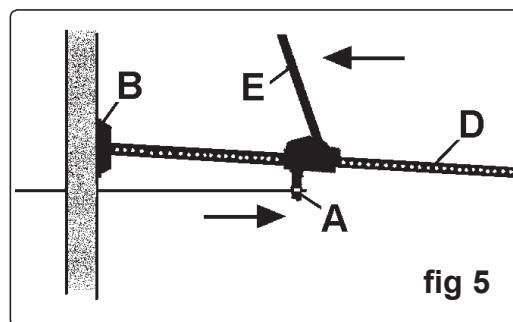
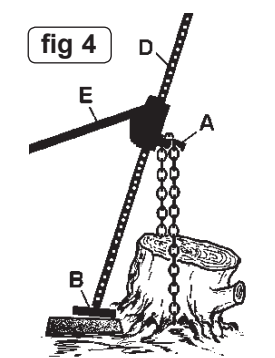

fig 5
fig 4
- 3.3.1. The jack may be used for a variety of other purposes such as tensioning fences (See fig.5), pulling out tree stumps (See fig.4) and positioning of heavy items such as machinery. In all cases such operations should begin with a risk assessment exercise including consideration of the following points.